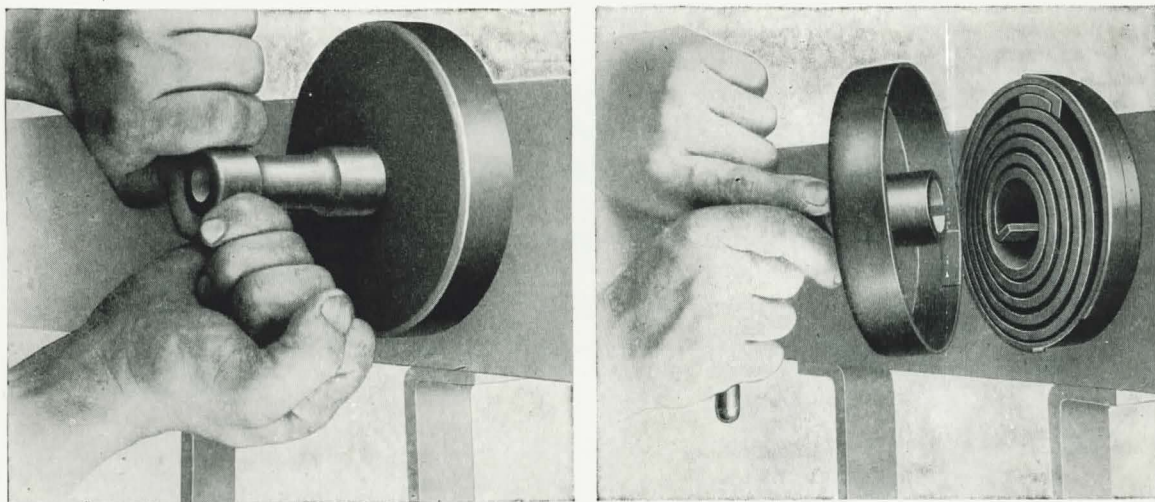

Figure 73
- (1) Mount the closing spring assembly on the bracket at the rear of the carriage platform and use wrench (298868-1) to remove the cover, **Figure 73**. To do this, push the cover in against spring tension and turn it to the left to release.
- (2) Remove the spring.
- (3) Remove the spring case from the bracket.